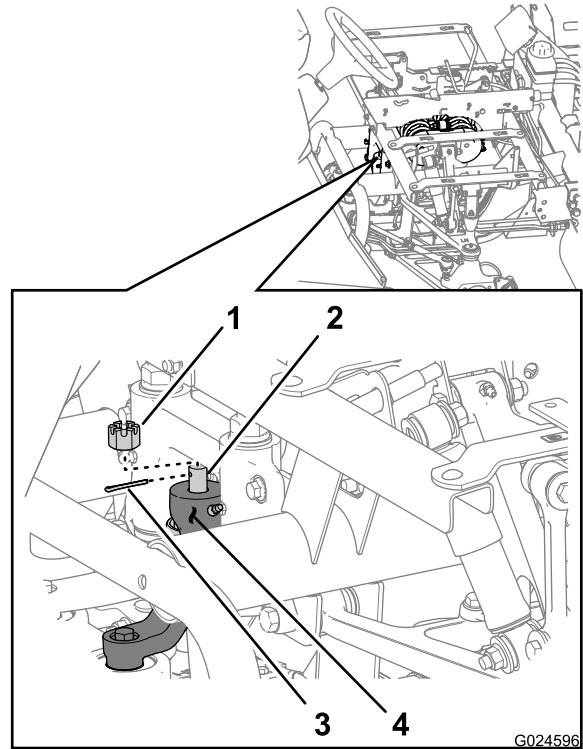

Figure 21
4. Remove the cotter pin that secures the slotted nut to the forward-ball joint of the steering cylinder (at the pitman arm), and remove the slotted nut (Figure 21).
- Secure the ball joint at the front of the steering cylinder to the pitman arm with the slotted nut (Figure 21).
- Secure the slotted nuts with the cotter pin (Figure 21 and Figure 22) that you removed in step 4 of Replacing the Steering Cylinder (page 8).